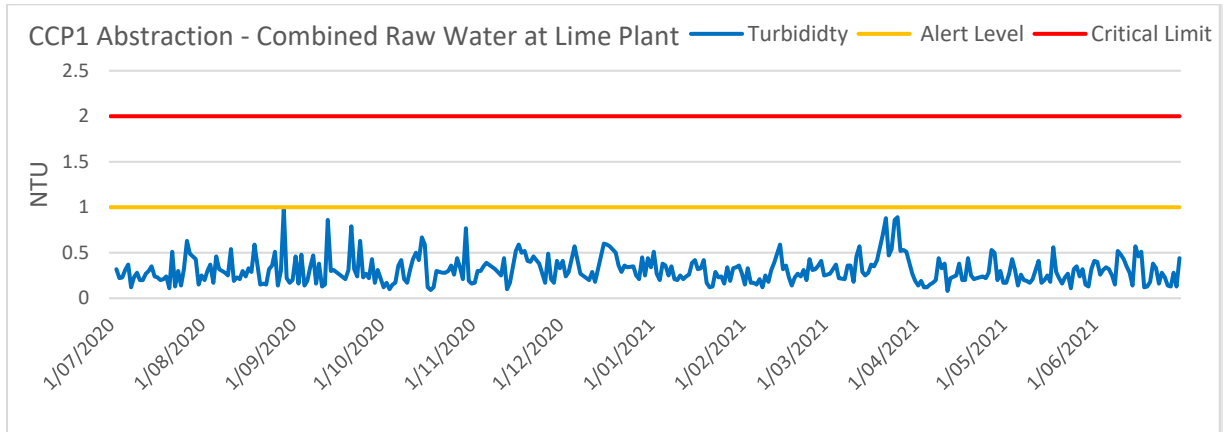

Figure 4.3.1a - CCP 1 Abstraction – Turbidity at combined raw water Lime Plant
Monitoring data for each of the Kempsey - Lower Macleay supply systems CCPs is shown in Figures 4.3.1a, 4.3.1b and 4.3.1c.
No Critical Limit exceptions occurred in the Kempsey - Lower Macleay supply during the 2020-2021 reporting year (Table 4.1 and Figures 4.3.1a, 4.3.1b and 4.3.1c). A reduction of two (2) events from 2019-2020.